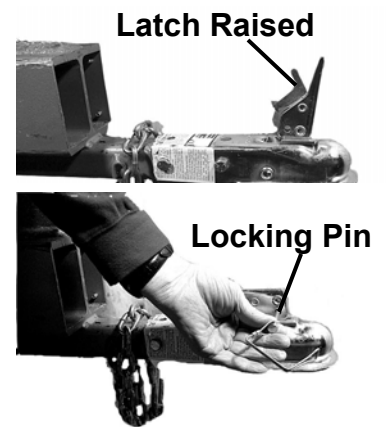

Figure 14
- a.) Raise hitch latch to the unlocked position (*Figure 14*).
- c.) Lower the hitch latch into the locked position and secure with locking pin (*Figure 14*).